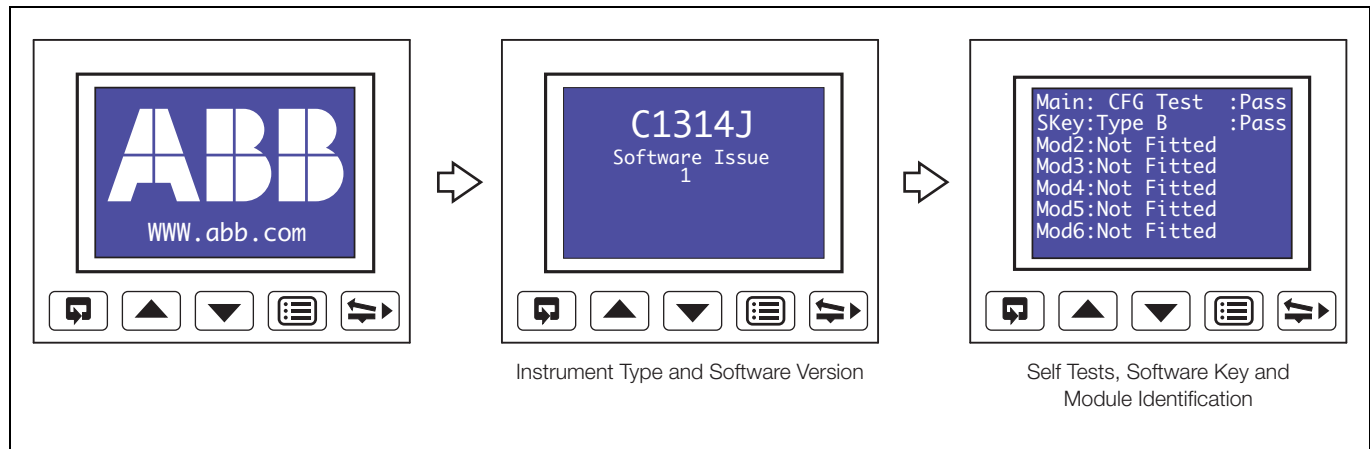
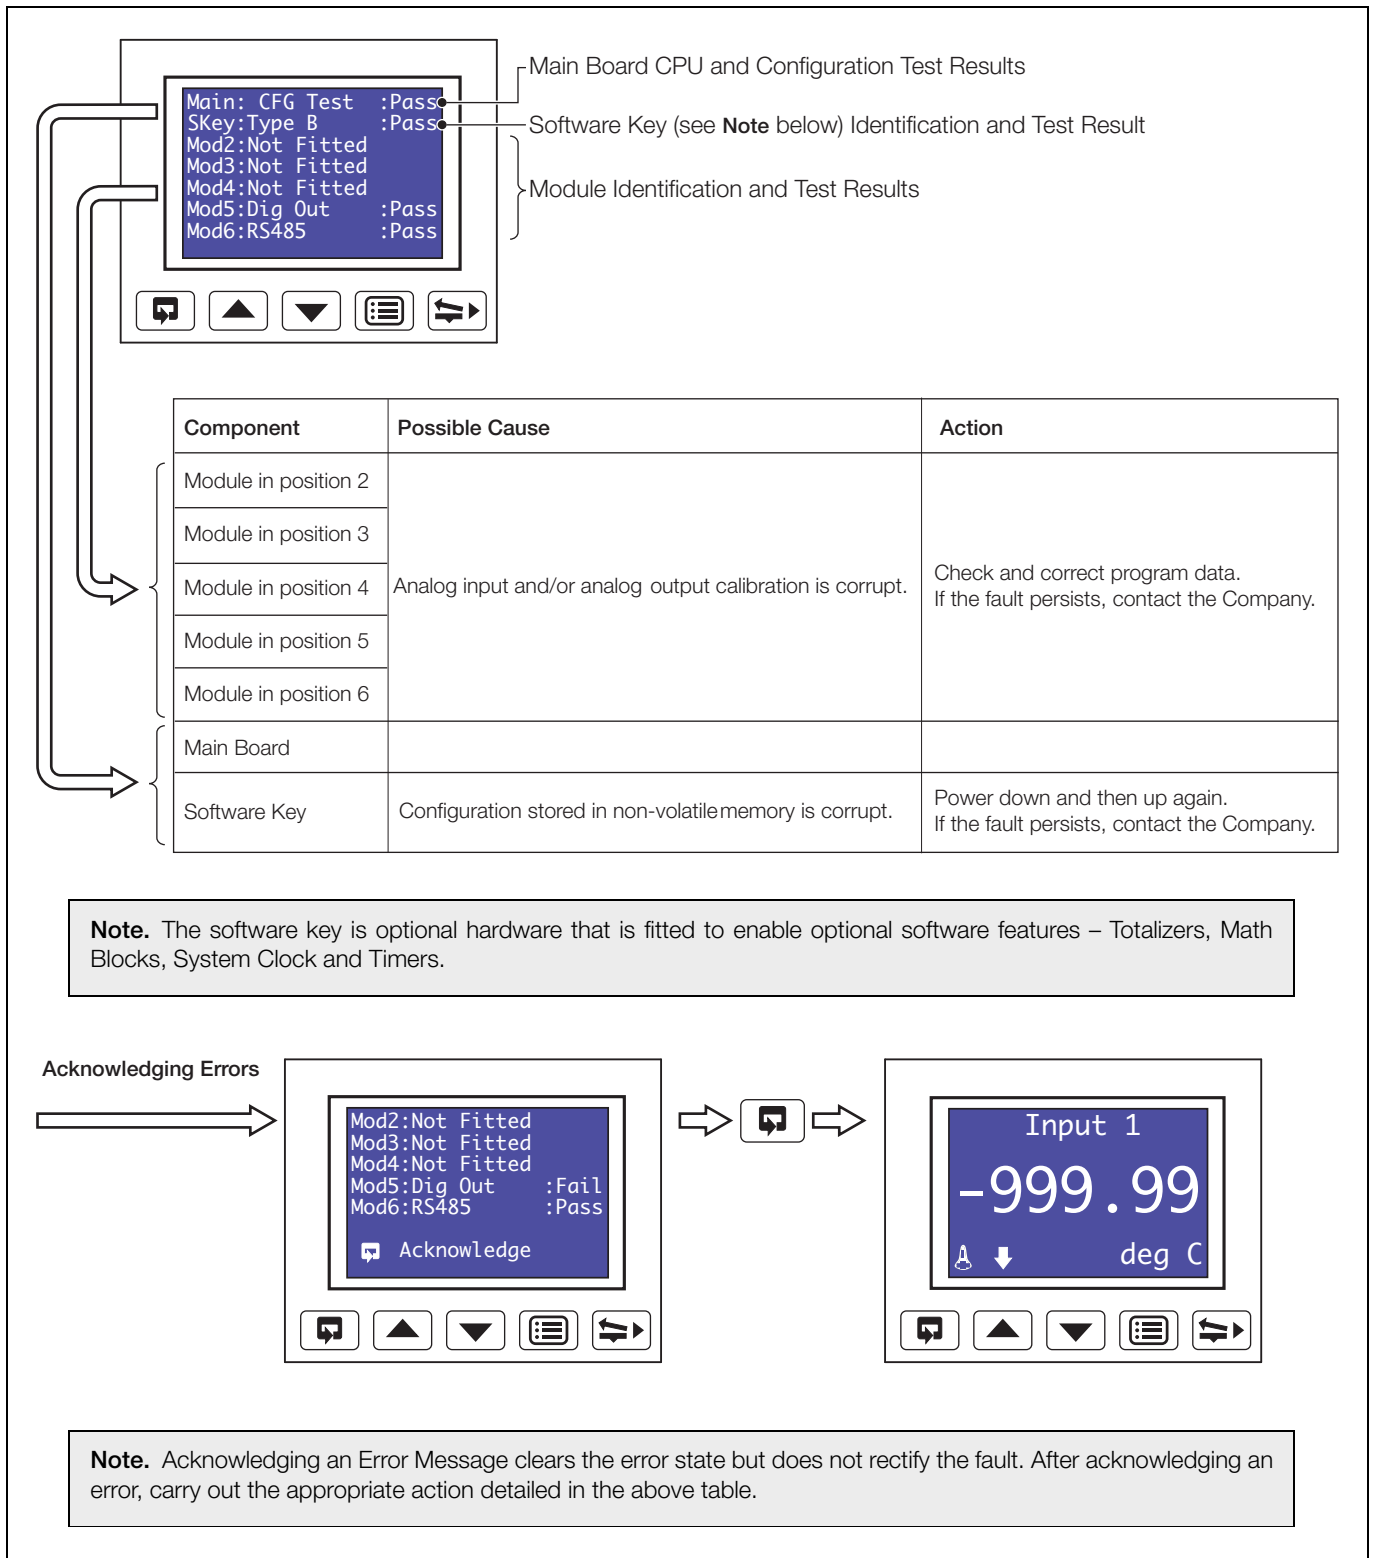

Fig. 1.3 Recorder Start-up Self-test Sequence
Fig. 1.4 Start-up Error Messages
2. The start-up self-test sequence shown in Fig. 1.3 is shown on display screen 1 when the power supply is first switched on.
If any of the start-up self-tests (see Fig. 1.3) fail, the error message 'Fail' is displayed. Refer to Fig. 1.4 for possible cause and remedial action information.